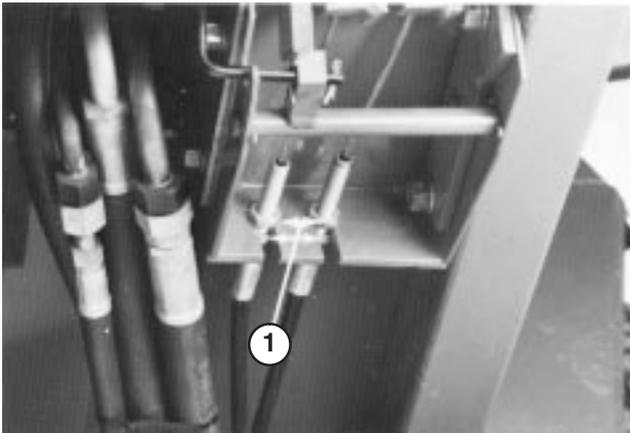

Figure 60
1. To reduce free travel of turn pedals—tighten the brakes—loosen front nut on threaded end of brake cable (Fig. 60). Then tighten rear nut to move cable backward until turn pedals have 1/2 to 1 inch (13 to 25 mm) of free travel. Tighten front nut after brakes are adjusted correctly.